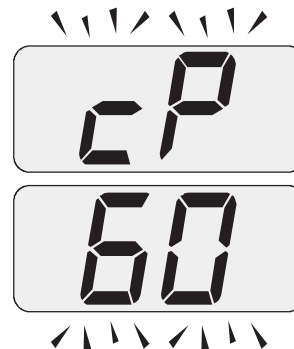

Figure 11.8
- 20 Press key G to vary the output in chimney sweep mode: when the display shows the letters cP that alternate with the heating water temperature value (e.g. 60), the "chimney sweep function" is at maximum output in heating mode (Figure 11.8);